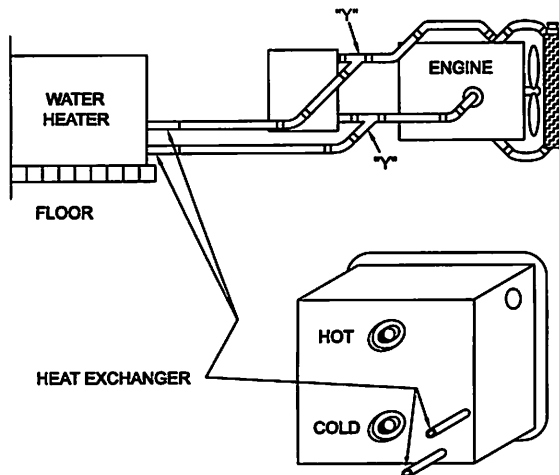

Figure 11
- Place copper "Y"s in heater as shown in Figure 11.